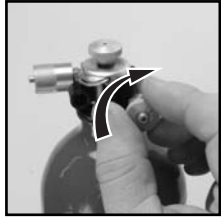

FIG. 12
■ Make sure all FUEL VALVES are fully "OFF" (Fig 12, 13, and 14).